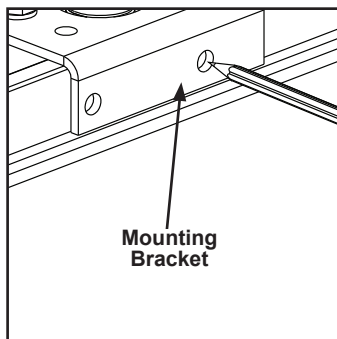

Figure 3-86
- Step 1. Use rail mounting bracket as template to mark rail. See Figure 3-86.